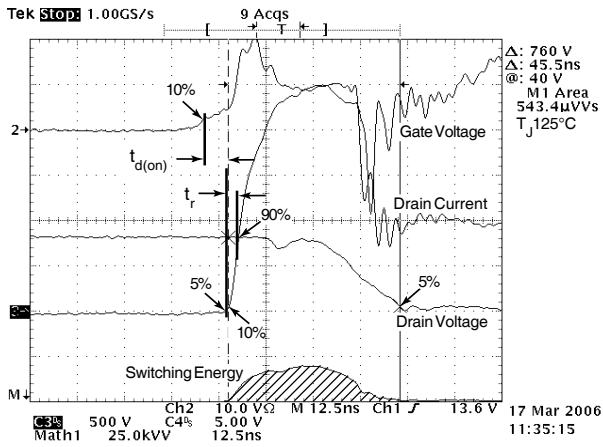

Figure 18, Turn-on Switching Waveforms and Definitions
① Repetitive Rating: Pulse width limited by maximum junction temperature
② Pulse Test: Pulse width < 380 μs, Duty Cycle < 2%
③ See MIL-STD-750 Method 3471
④ Starting $T_j = +25^\circ C, L = 29.9mH, R_G = 25\Omega, \text{Peak } I_L = 9A$
⑤ dv/dt numbers reflect the limitations of the test circuit rather than the device itself. $I_S \leq -I_D 9A, di/dt \leq 700A/\mu s, V_R \leq 1200, T_j \leq 150^\circ C$
⑥ E_{on} includes diode reverse recovery. See figures 18, 20.